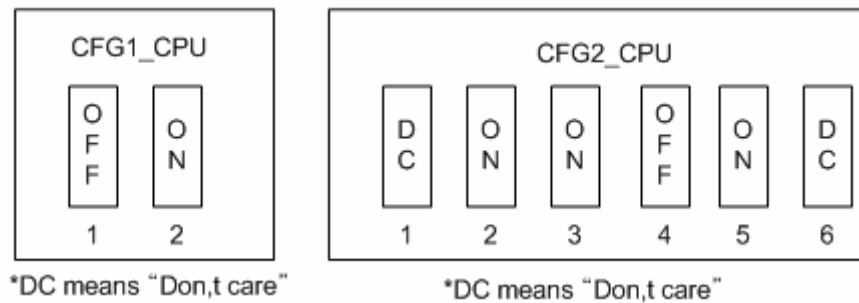

Figure 6-4 Switch Setting on CPU board for AMD flash boot
8. On the **Serial Port** menu, click **Connect**. Switch **ON** the reference board and then press any key. The DNW window appears as shown in figure 6-4.